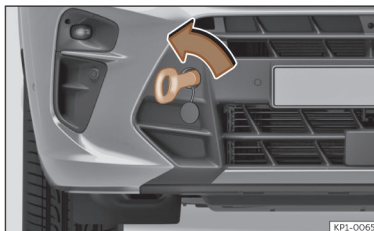

Fig. 214 Right side of the front bumper: towing eye screwed in.
- Screw the towing eye in the housing by turning it to the maximum **anticlockwise** >>> **Fig. 214**, >>> ⓘ. Use a suitable object that can completely and securely tighten the towing eye in its housing.